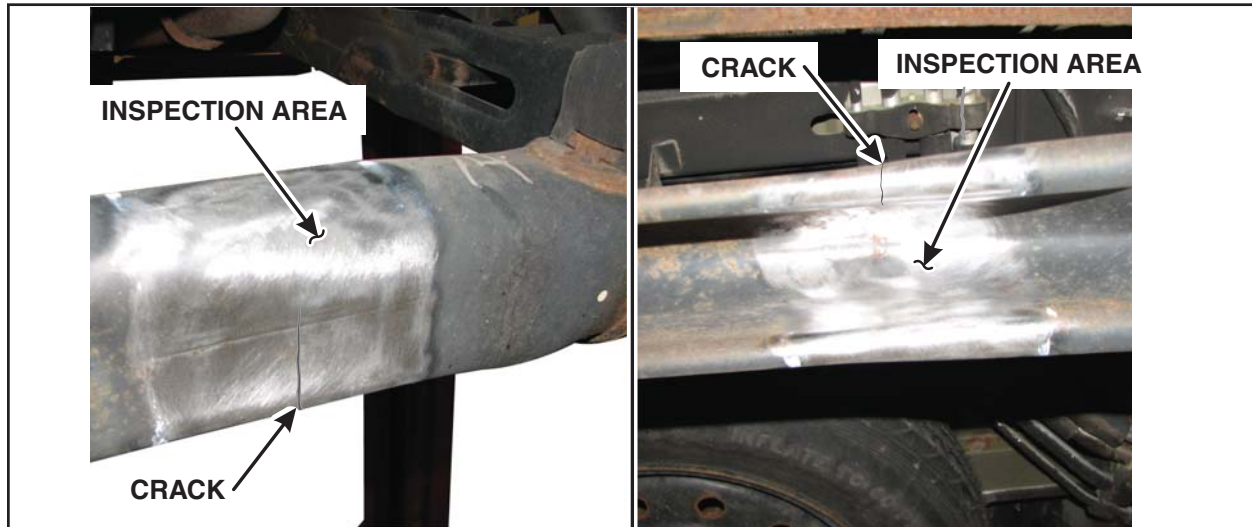

FIGURE 3
4. Visually inspect the cleaned front, rear and inside areas of the axle for cracks. See Figure 3.